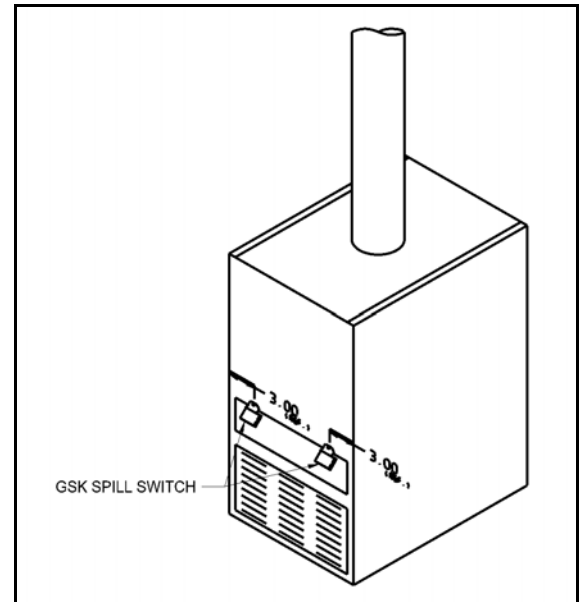

Figure 3
### BUILT-IN DRAFT HOOD (See Figures 3 & 4)
1. Two (2) switches are recommended on appliances without a factory supplied spill switch. Mount the switches approximately 3 inches from the side of the draft hood opening and the second switch (if used) 3 inches from the opposite side of the draft hood. (See Figure 3) If the appliance has a factory built-in switch, mount a single switch 3 inches from the side opposite the factory switch.